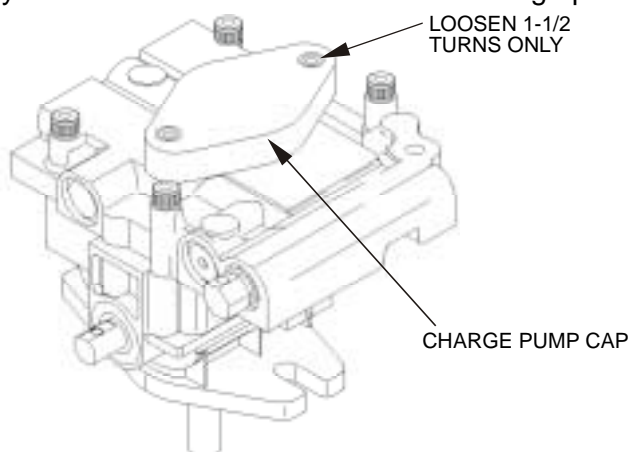

FIGURE 9
- g) If either drive wheel does not rotate, one or both of the charge pumps (located on the top of the main pump as shown in Figure 9) may have lost their "prime". Refer to Section 5.1.10.
The critical area for purging air from the hydraulic system is between the oil reservoir and each charge pump located on the top of each variable displacement pump (See Figure 9).